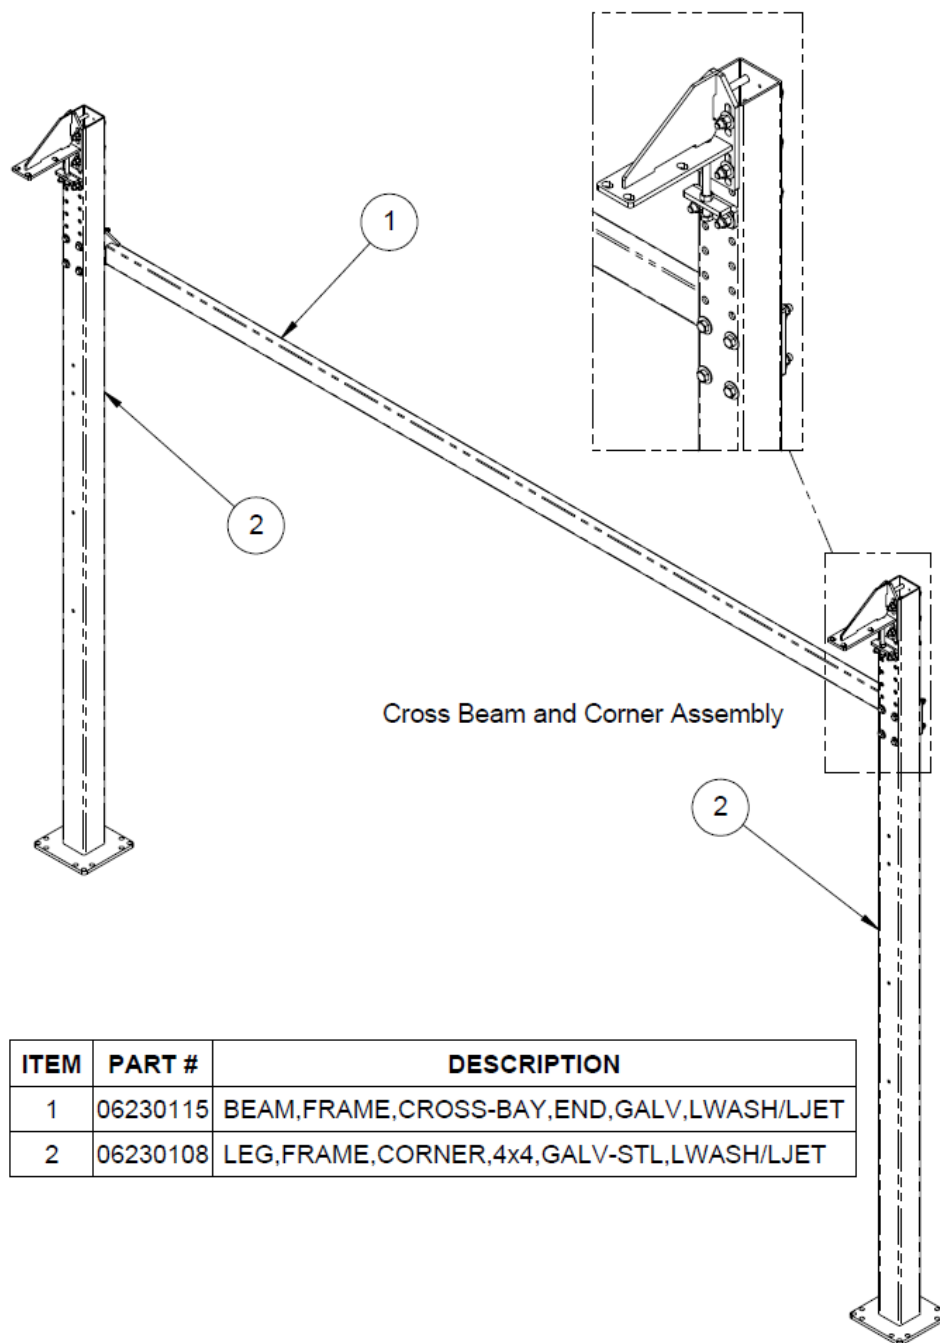
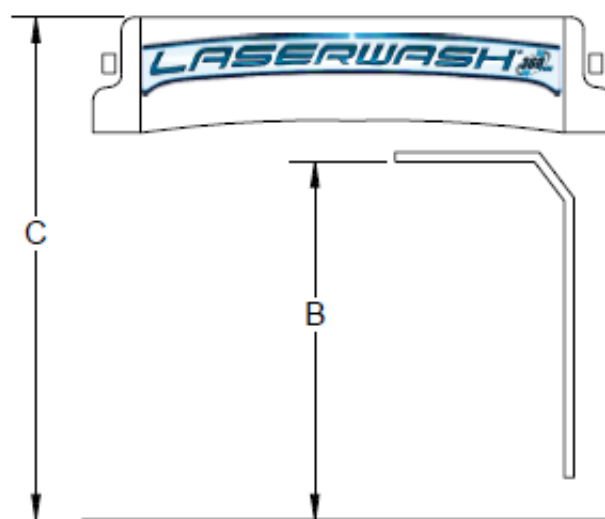

Figure 19 – Cross Beam and Legs
Figure 21 - Leg Arch Height Adjustment
Build (2) leg assemblies as shown in Figure 19 using the parts shown in Figure 20. When assembling, position the height of the rail brackets per Figure 21. This height will set the wash clearance height as shown in the table in Figure 21.